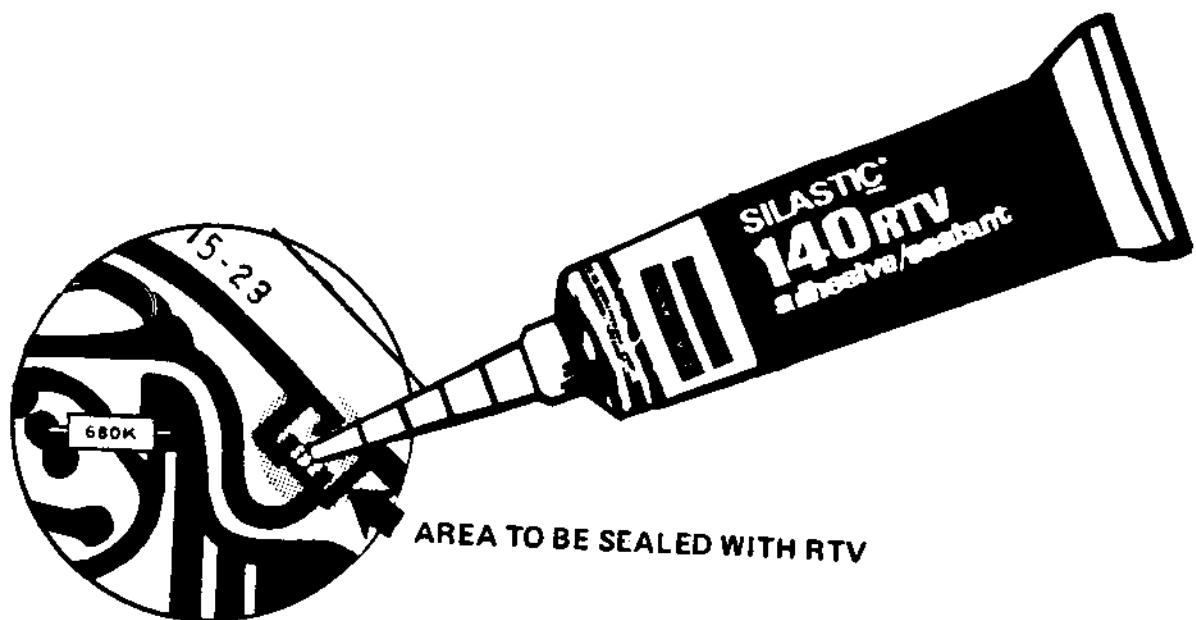

Figure 9.1-4. Sealing Tube Socket with RTV
| Figure 9.1-4 | Sealing Tube Socket with RTV                                | 9.1-11 |
6. Seal the tube socket with a coating of RTV Adhesive (Sort Code 21375) as shown in figure 9.1-4.